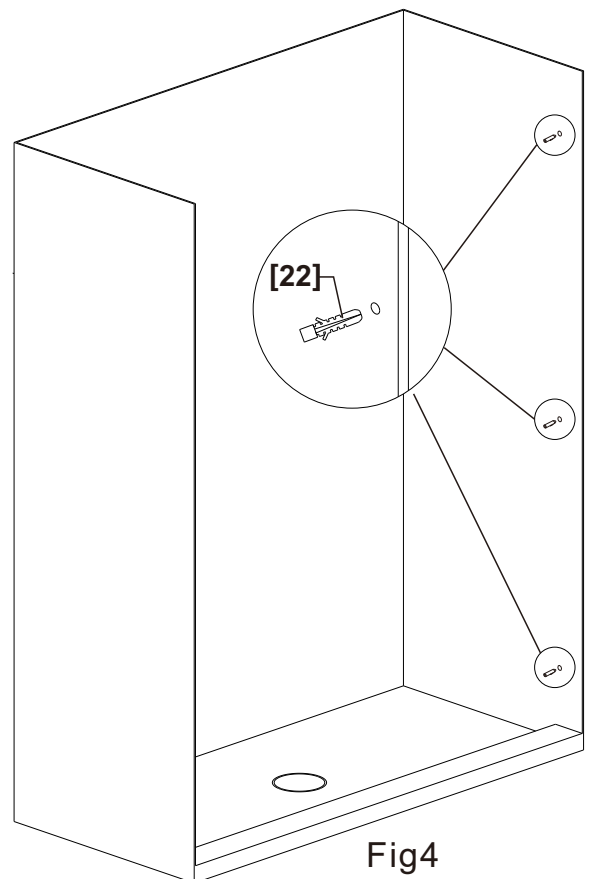

Fig4
3. To reduce risk of property damage, the use of metal hammers is not recommended. If needed, use drill to slightly enlarge the opening of the hole (Fig. 4).